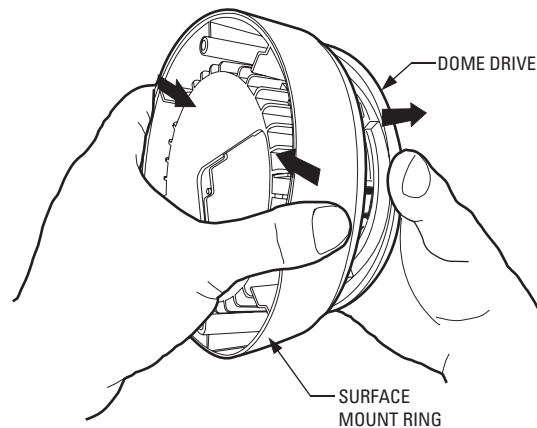

Figure 7. How to Remove Surface Mount Ring
4. Remove the surface mount ring from the dome drive as follows. Refer to Figure 7.
3. Remove the surface mount ring from the dome drive as follows. Refer to Figure 7.